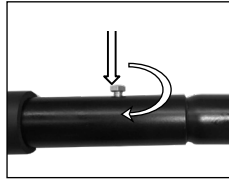

fig 2.
2. Insert the bolt and tighten in a clockwise direction (where fitted) [fig.2].